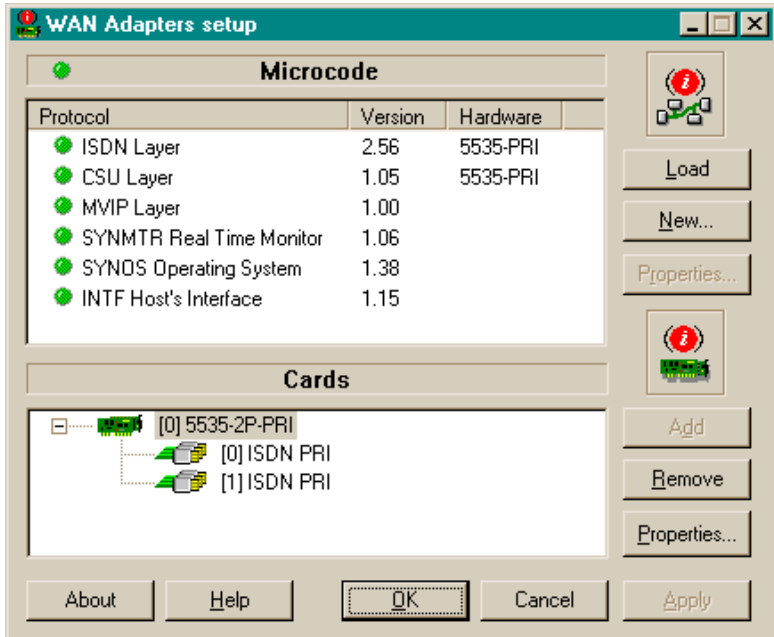

Figure 5-1. WAN Adapters Setup
1. Select the ISDN port you want to configure in the Cards section of the WAN Adapters setup dialog (shown in Figure 5-1 on page 53.)
1. Select the ISDN port to configure in the Cards section of the WAN Adapters setup dialog (shown in Figure 5-1 on page 53).